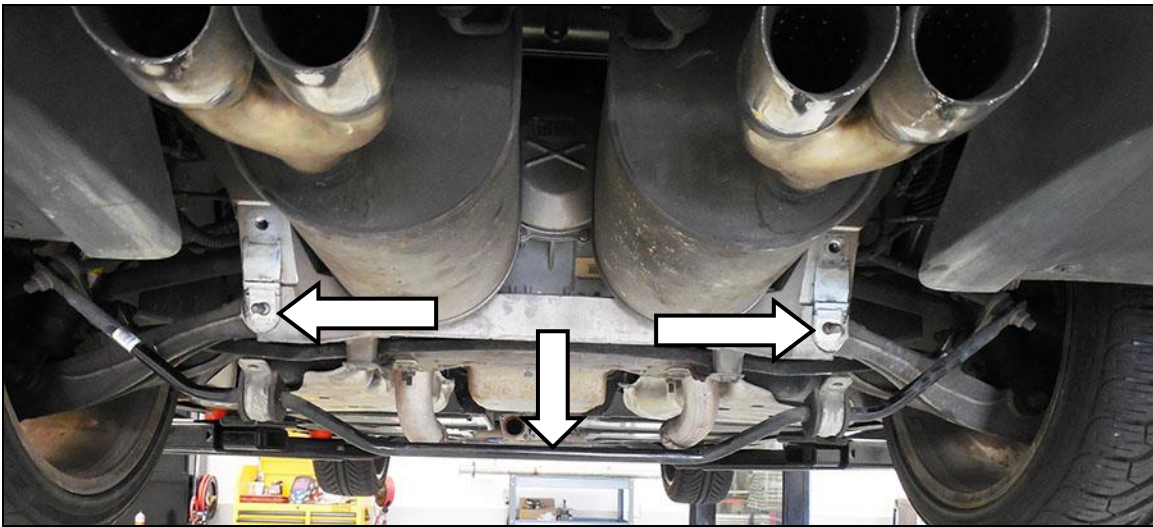

Figure 1
2. Remove the (x2) nuts and (x2) bolts from the rear sway bar center mounting bushings. Do not remove the lower control arm bolt. Allow the sway bar assembly to swing down and away from the mufflers (**Figure 1**).